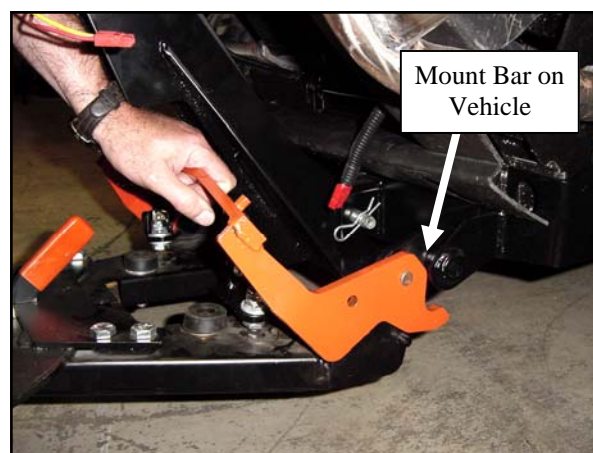

Fig. 9.4 — Install plow to mount
9.4 Per figure 9.4, lift the plow with the A-frame handle and engage the upper mount hooks on the mount bar of the vehicle. Push the A-frame handle towards the ground to close the lower hooks. Apply slight downward pressure to the handle and rotate the lockdown tabs into the closed position (away from center of A-Frame), and lower the secondary latches as shown in figure 9.4.1.